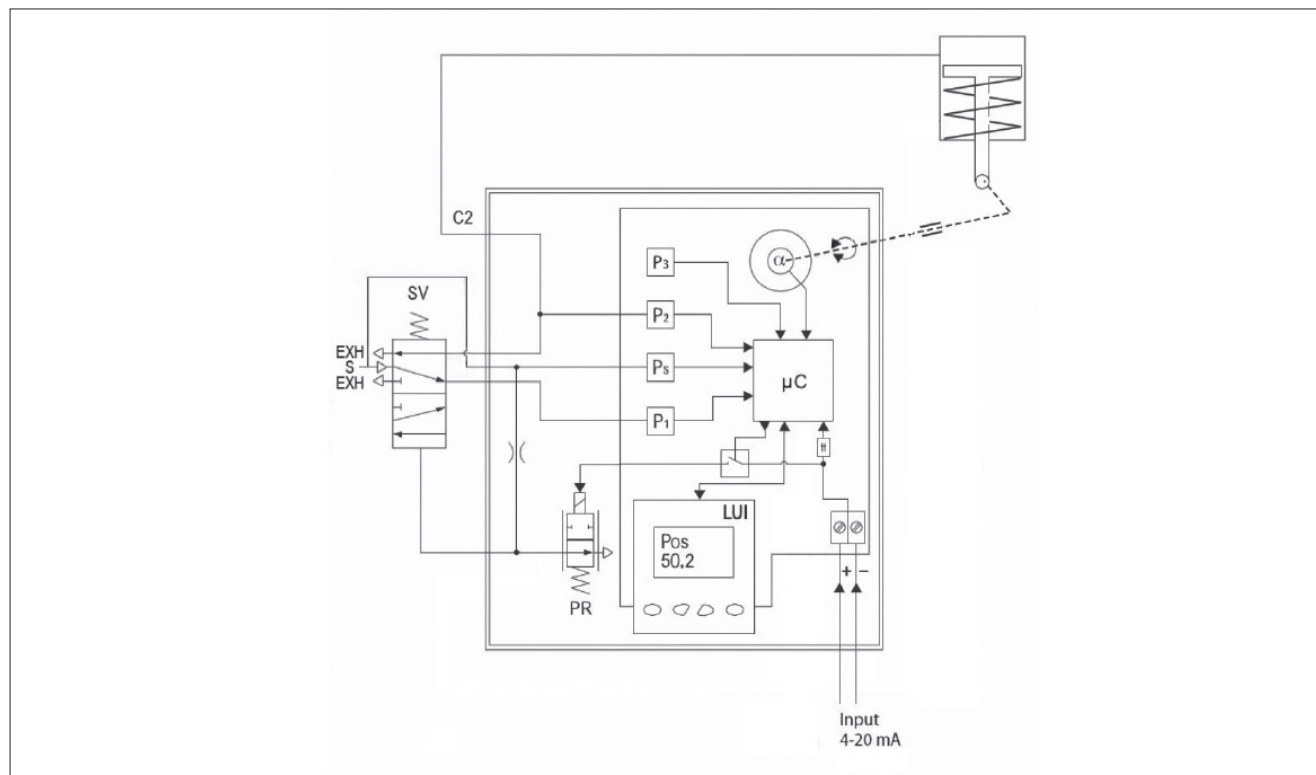

Fig. 1. Principle of operation. Spool valve and prestage are shown in de-energized position.
Intelligent safety solenoid part of the Neles ValvGuard consists of the spool valve (SV), the prestage unit (PR) and the safety electronics. They are the components, which takes part of the safety action. Prestage unit is coil operated flapper valve, which is open when de-energized. De-energized is the safe state of the device prestage unit coil. Prestage unit is controlling the spool valve, which is operated by spring force to fail safe position and by pneumatic force to the normal position. See figure 1 for the principle of operation. Prestage will be de-energized when input signal (loop current) to the device (VG9000H) is below 6.0 mA (nominal 4.0 mA). If using VG9000H_L3 product option, then the prestage will be de-energized when input signal is below 10.0 mA (nominal 8.0 mA). That will cause the spool valve to release the air from C2 port via spool valve exhaust and drive the emergency shutdown valve to close or open position depending on the application type.